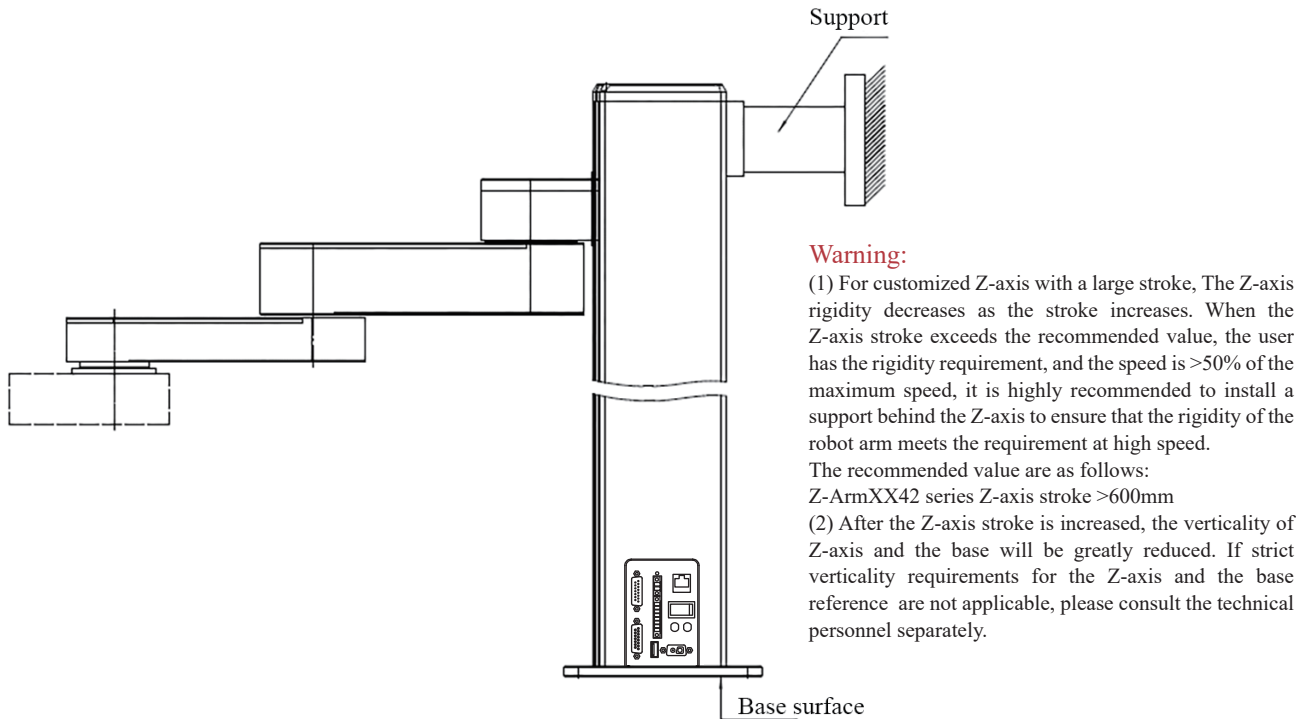

Figure 9
4. Notes for installation of customized Z axis, see Figure 9 for details.